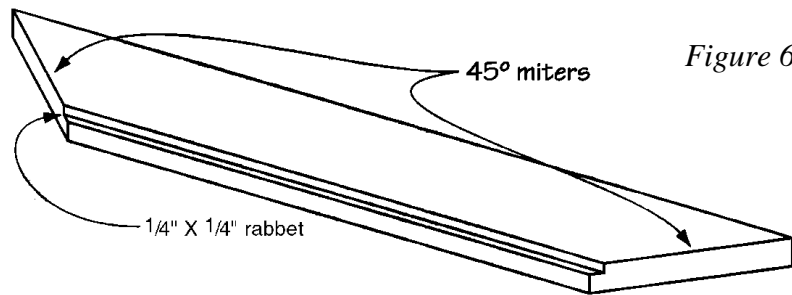
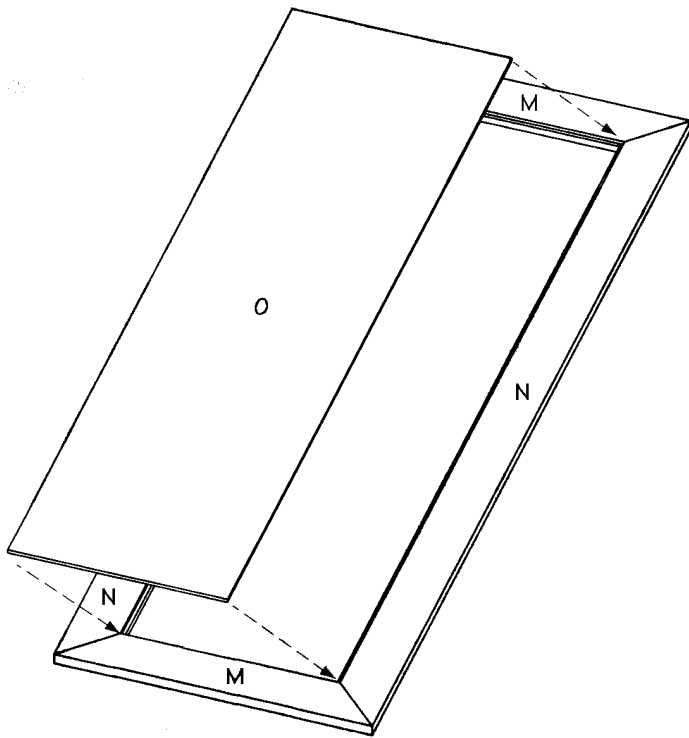

Figure 6
Figure 7
1. Cut four top/bottom door trims (M) from 1 x 4 pine, each measuring 21 inches long.
2. Miter each of the four top/bottom door trims (M) at opposing 45-degree angles, as shown in *Figure 6*.
3. Cut four side door trims (N) from 1 x 4 pine, each measuring 61 inches long.
4. Miter each of the four side door trims (N) at opposing 45-degree angles, as shown in *Figure 6*.
5. Cut a 1/4 x 1/4 inch rabbet on the inside edges of the backs of the door trims (M and N), as shown in *Figure 6*.
6. Cut four door panels (O) from 1/4-inch plywood, each measuring 14-1/2" x 54-1/2".
7. Place two top/bottom door trims (M) fronts down, 54 inches apart, and parallel to each other. The miters should oppose each other, as shown in *Figure 7*.
8. Fit two side door trims (N) between the two top/bottom door trims (M), as shown in *Figure 7*. Apply glue on the mitered surfaces and to the rabbets. Lay one door panel into the rabbet and clamp the door assembly together. Nail through the door panel (O) at an angle into the door trims (M and N) using 3/4" brads spaced 4 inches apart. Reinforce the outside of each miter joint by driving one 1-1/4" 3d finishing nail across the joint from each edge, starting about 1 inch from the corner.